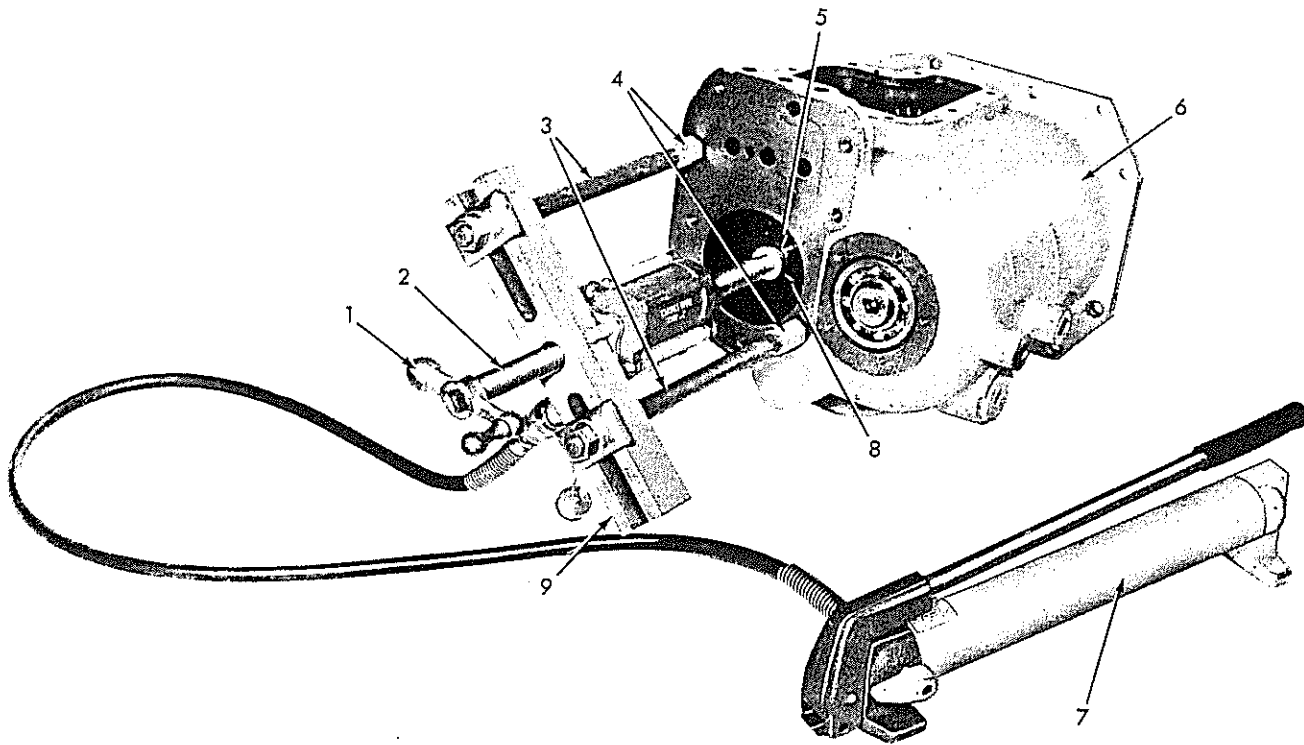

Fig. 11 Removing Pinion Shaft
- Refer to Fig. 11, assemble tools as shown and press pinion shaft toward rear of transmission until rear bearing is free of its bore. Remove tools and pull pinion shaft from case; remove shaft components as they are free of shaft. Tie pinion depth adjustment shims together and lay aside for reuse in assembly.